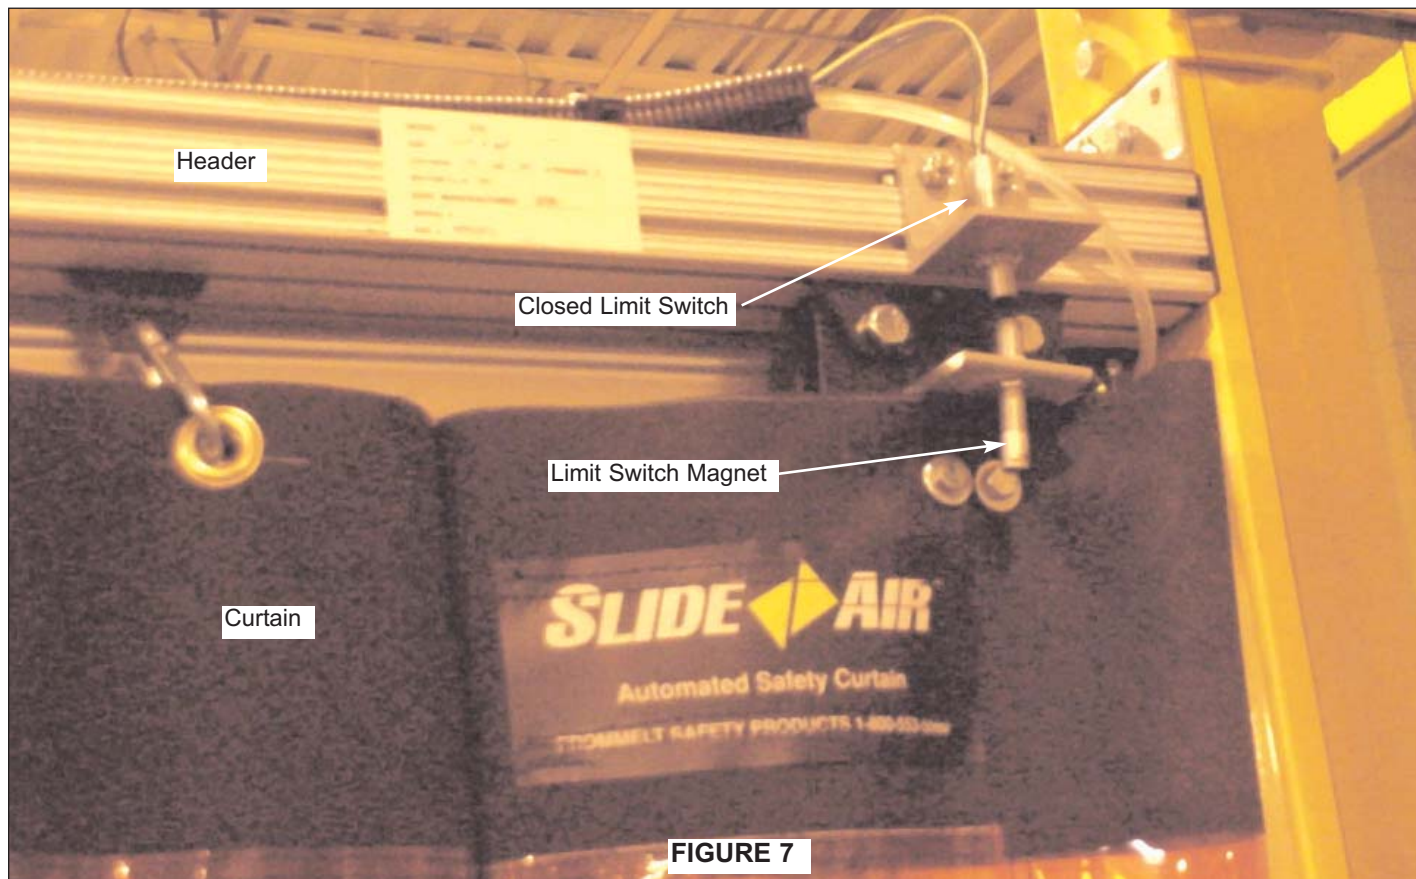

FIGURE 7
1. Limit switches can be adjusted by loosening the limit switch bracket bolts and sliding the bracket to the correct location, Figure 7.
4. For adjusting the closed limit switch see Figure 7.